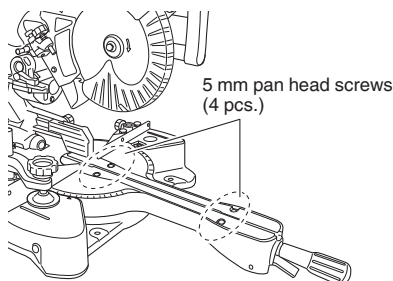

Fig. 24
- (1) Loosen the 5 mm pan screws (4 pcs.) that fix the cutting edge plate, and temporarily tighten all 5 mm pan screws with the horizontal gap in the cutting edge plate widened. (Fig. 24)